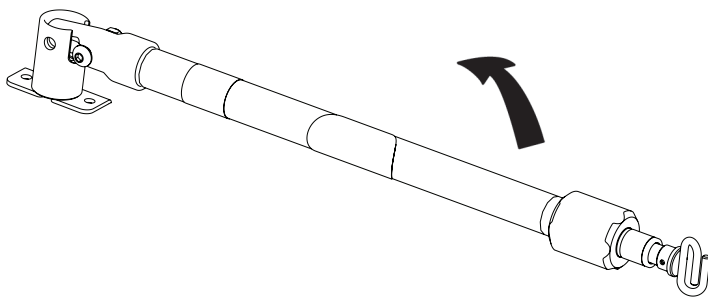

Figure 30.1: 3-Stage I.V. Pole Storage Position
1. Lift and pivot the pole from the storage position and push down until it is locked into the receptacle (A).
2. To raise the height of the pole, turn the lock actuator (B) counterclockwise and pull up on the bottom telescoping portion (C) of the pole to raise it to the desired height.
3. Turn the lock actuator (B) clockwise to lock the bottom telescoping portion in place.
4. For a higher I.V. pole, pull up on section (D) until the spring clip (E) engages.
5. Hang I.V. bags on the I.V. hook (F).
6. To lower the I.V. pole, push in on the spring clip (E) and slide section (D) down into section (C). Turn the lock actuator (B) counterclockwise and slide section (C) into the bottom tube.
7. Turn the lock actuator (B) clockwise to tighten.
8. Lift up and pivot the pole down into the storage position as shown in Figure 30.1.